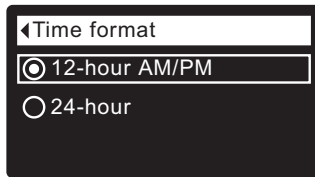

FIG. 112
1. From any of the rolling status screens, press the SELECT (O) button to display the **Main menu**.
3. Press the SELECT (O) button to display the User preferences menu.
5. Press the SELECT (O) button to display the Time format menu (See Figure 112).
6. If the desired time format already has a dot next to it (See Figure 112), go to Step 7. Otherwise, press the DOWN (▼) or UP (▲) buttons to scroll to the other time format, then press SELECT (O) to choose it.
7. Press the SELECT (O) button. The display will go back to the User preferences menu.